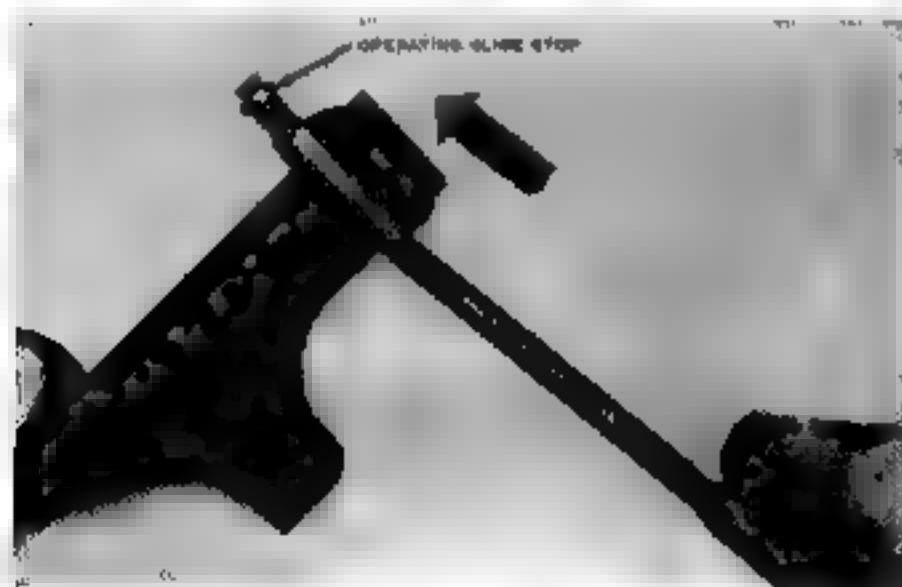

Figure 32. Removing the operating slide stop.
- Grasp the operating slide as shown in Figure 32. Using the operating slide spring guide, push out the operating slide stop, small end first